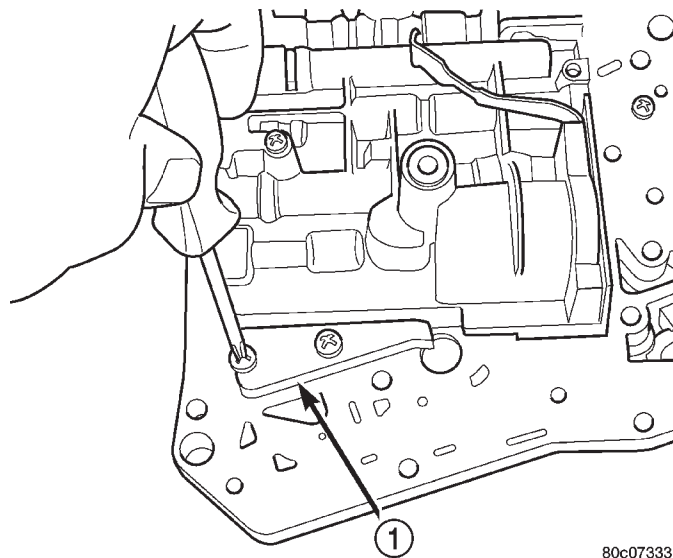

Fig. 123 Stiffener Plate
- (5) Remove valve body stiffener plate (Fig. 123).